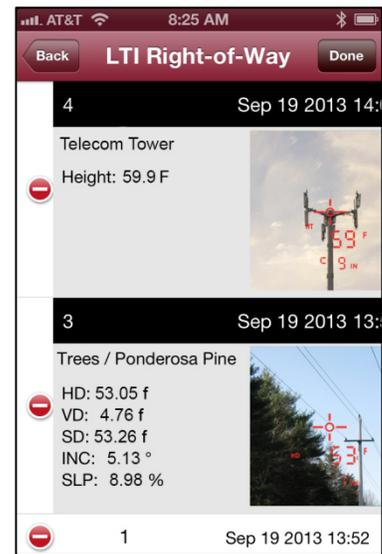

Figure 46
4. Tap the shot to select it, and then tap the  button that displays on top of it (Figure 46).